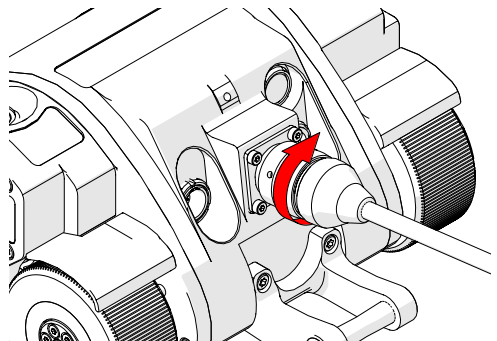

Fig. 41 - Align with crawler's umbilical mount
2. Twist the umbilical's sleeve clockwise, locking the umbilical in place (Fig. 41).